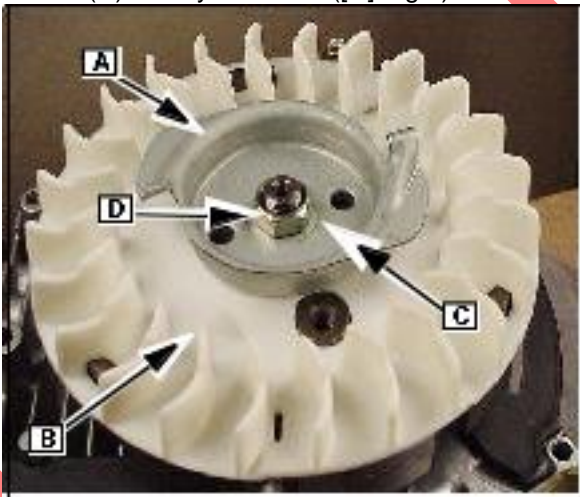

Fig. 5
Position the starter cup (A) on top of the blower fan (B) by aligning the two drive flanges with the casting depressions. Install starter hub (if equipped), washer (C) and flywheel nut ([D] Fig.5).